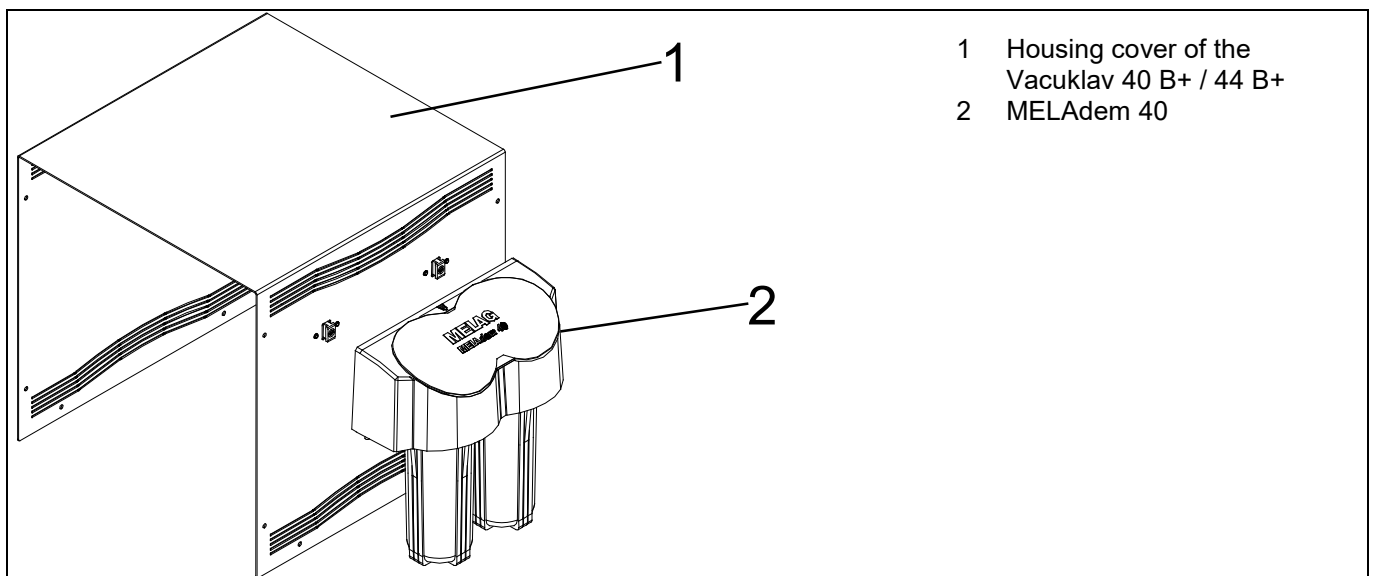
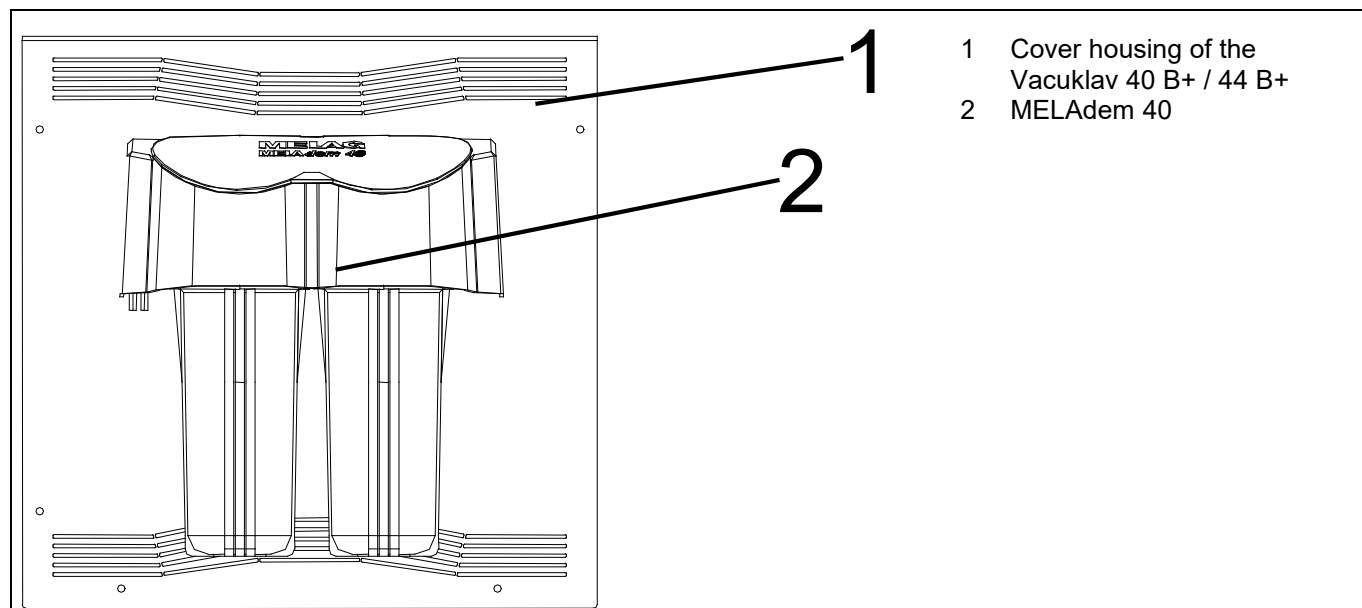

Figure 5: Position for hanging the MELAdem 40 to the Vacuklav 40 B+ / Vacuklav 44 B+
Figure 6: Correct position of MELAdem 40 on the housing of Vacuklav 40 B+ / Vacuklav 44 B+
3. Hang the MELAdem 40 down into the mounting fixtures by sliding it vertically from above, and push it downward until it locks firmly into place (see Figure 5). The final position is shown in Figure 6 below.